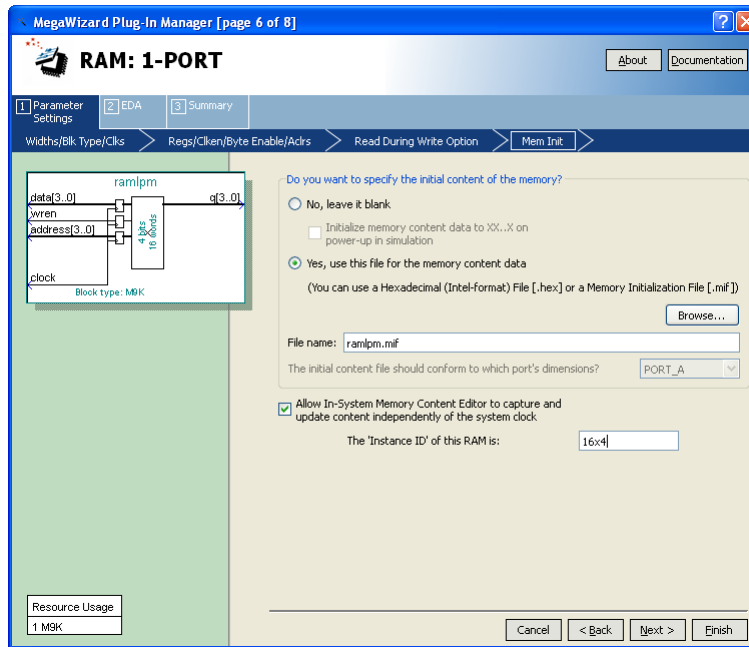
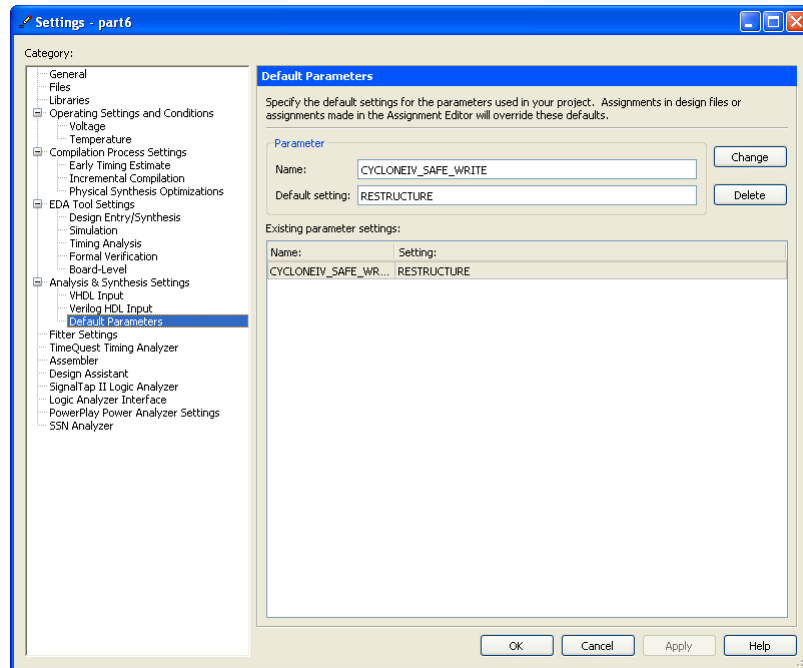

Figure 6: Configuring *RAM: 1-PORT* for use with the In-System Memory Content Editor.
Figure 7: Setting the *CYCLONEIV_SAFE_WRITE* parameter.
1. Create a new Quartus II project for your circuit, and use the MegaWizard Plug-in Manager to again create a *RAM: 1-PORT* LPM. For Pages 1 to 5 of the Wizard use the same settings as in Part I. On Page 6, shown in Figure 6, specify the *ramlpm.mif* file as you did in Part V, but also make the setting *Allow In-System Memory Content Editor* to capture and update content independently of the system clock. This option allows you to use a feature of the Quartus II CAD system called the In-System Memory Content Editor to view and manipulate the contents of the created RAM module. When using this tool you can optionally specify a four-character 'Instance ID' that serves as a name for the memory; in Figure 7 we gave the RAM module the name *32x8*. Complete the final steps in the Wizard.
3. Before you can use the In-System Memory Content Editor tool, one additional setting has to be made. In the Quartus II software select **Assignments > Settings** to open the window in Figure 7, and then open the item called **Default Parameters** under **Analysis and Synthesis Settings**. As shown in the figure, type the parameter name **CYCLONEIV_SAFE_WRITE** and assign the value **RESTRUCTURE**. This parameter allows the Quartus II synthesis tools to modify the single-port RAM as needed to allow reading and writing of the memory by the In-System Memory Content Editor tool. Click **OK** to exit from the Settings window.